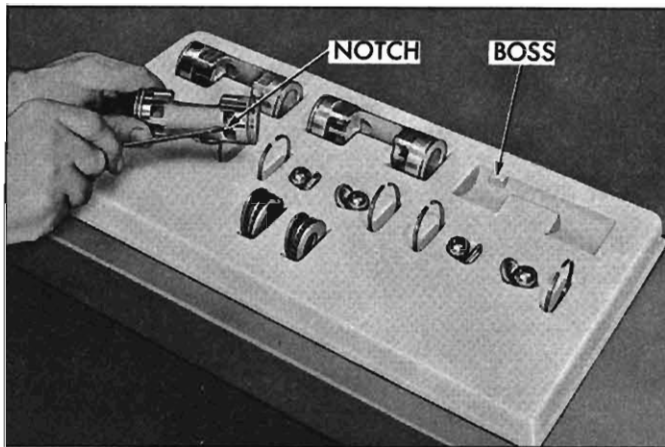

Fig. 11-49—Notch Identifying Front End of Piston
**NOTE:** The front of the piston may be identified by a notch in the casting web. See Fig. 11-49. The piston compartments in Tray J-9402 have a boss at this notch location to indicate the front.